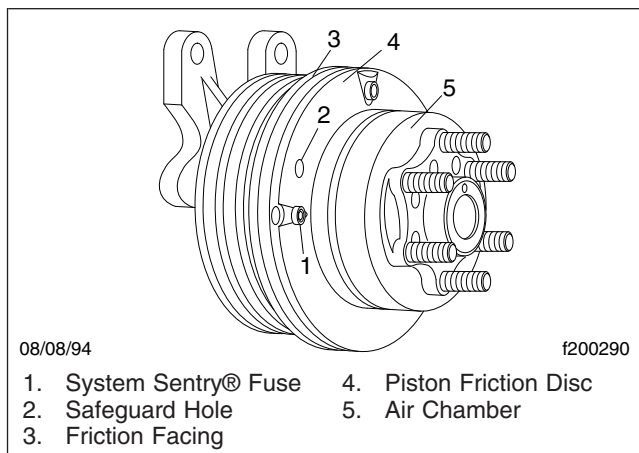

Fig. 5, Horton Advantage Fan Clutch
6. Check for wear on the friction facing. See **Fig. 5**. Replace the friction facing if it is worn to a 1/16-inch (1.6-mm) thickness or less. Also check the facing for signs of oil contamination or burn marks. If evidence of oil or burn marks are found, replace the friction facing.